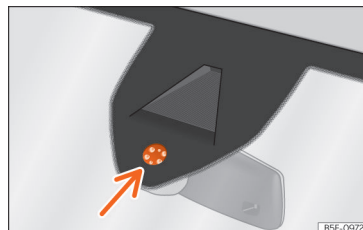

Fig. 157 Rain sensor sensitive surface
Possible causes of faults and mistaken readings on the sensitive surface »» Fig. 157 of the rain sensor include:
- Clean the sensitive surface of the rain sensor regularly and check the blades for damage »» Fig. 157 (arrow).